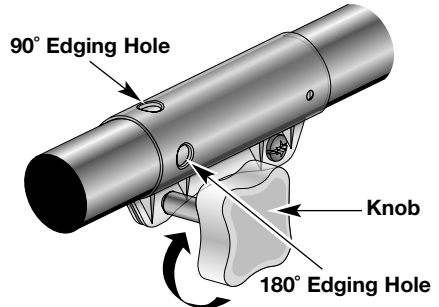

Fig. 23
3. Turn the knob clockwise to tighten (Fig. 23).
NOTE: For edging with Click-Link® models, lock the release button of the cutting attachment into the 90° edging hole or the 180° edging hole (Fig. 23).